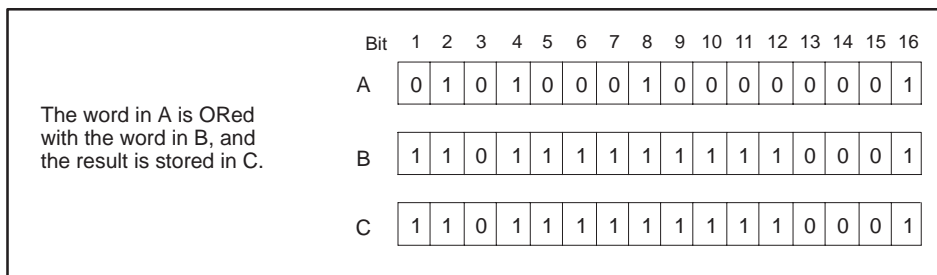

Figure 6-107 Result of ORing Two Words
- The result is stored in the memory location specified by C, as illustrated in Figure 6-107.